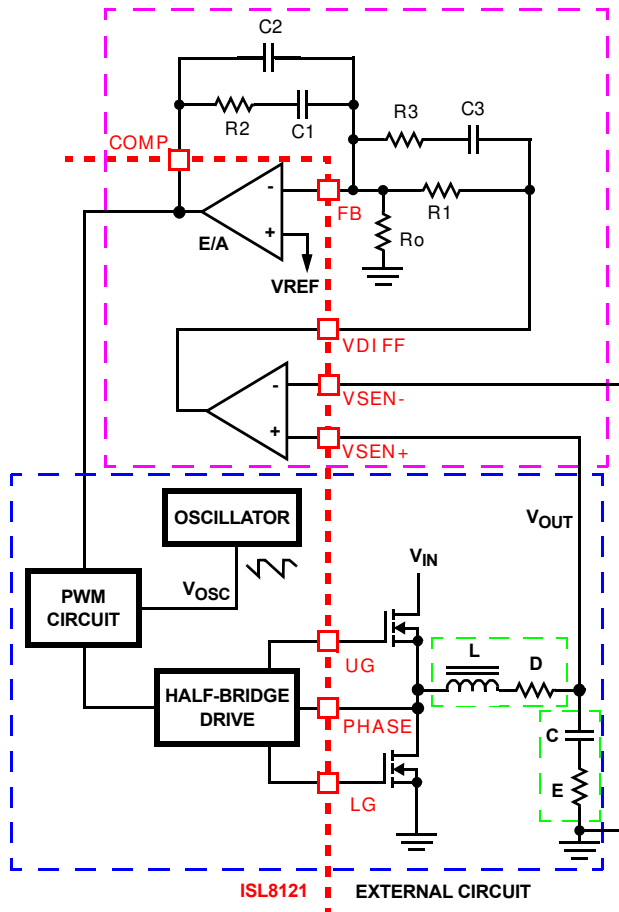

FIGURE 24. VOLTAGE-MODE BUCK CONVERTER COMPENSATION DESIGN
Figure 24 highlights the voltage-mode control loop for a synchronous-rectified buck converter, applicable, with a small number of adjustments, to the multi-phase ISL8121 circuit. The output voltage ( $V_{OUT}$ ) is regulated to the reference voltage,  $V_{REF}$ , level. The error amplifier output (COMP pin voltage) is compared with the oscillator (OSC) modified saw-tooth wave to provide a pulse-width modulated wave with an amplitude of  $V_{IN}$  at the PHASE node. The PWM wave is smoothed by the output filter (L and C). The output filter capacitor bank's equivalent series resistance is represented by the series resistor E.
1. Select a value for  $R1$  ( $1k\Omega$  to  $5k\Omega$  typically). Calculate value for  $R2$  for desired converter bandwidth ( $F_0$ ). If setting the output voltage via an offset resistor connected to the FB pin,  $R_o$  in Figure 24, the design procedure can be followed as presented. However, when setting the output voltage via a resistor divider placed at the input of the differential amplifier, in order to compensate for the attenuation introduced by the resistor divider, the obtained  $R2$  value needs be multiplied by a factor of  $(R_P + R_S)/R_P$ . The remainder of the calculations remain unchanged, as long as the compensated  $R2$  value is used.